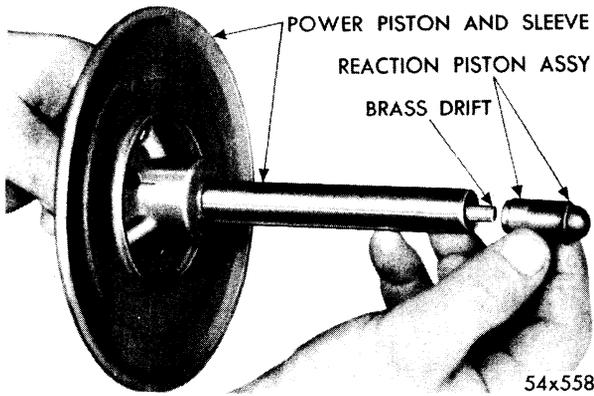

Fig. 81—Removing Reaction Piston Assembly
- (8) Remove power piston assembly from holding fixture. Insert a drift pin into center of power piston, as shown in Figure 81, and push out reaction piston insert and dome cup assembly.
- (9) Use extreme care to avoid marring reaction piston or dome cup insert. Remove and discard reaction cup. Reaction piston and cup insert can be popped out of cup by pinching dome between thumb and forefinger.